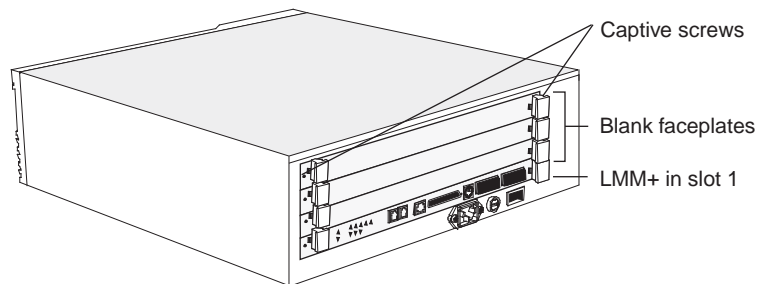

Figure 2 LANplex 6004 with Blank Faceplate
- 1 Unscrew the securing screws on the module's faceplate. See Figure 2.
- 3 Unscrew the securing screws on the module's faceplate. See Figure 2.